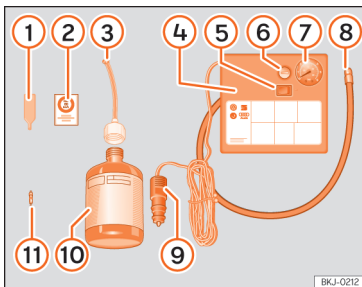

Fig. 70 Standard display: contents of the anti-puncture kit.
- Unscrew the tyre valve cap and insert. Use the »» Fig. 70 ① tool to remove the insert. Place it on a clean surface.
- Shake the tyre sealant bottle vigorously »» Fig. 70 ⑩.
- Screw the inflator tube »» Fig. 70 ③ into the sealant bottle. The bottle's seal will break automatically.
- Remove the lid from the filling tube »» Fig. 70 ③ and screw the open end of the tube into the tyre valve.
- Place the insert back into the tyre valve using the tool »» Fig. 70 ①.
- Screw the compressor tyre inflator tube »» Fig. 70 ⑧ into the tyre valve.
- Check that the air bleed screw is closed »» Fig. 70 ⑥.
- Insert the connector »» Fig. 70 ⑨ into the vehicle's 12-volt socket »» page 177.
- Turn the air compressor on with the ON/OFF switch »» Fig. 70 ⑤.
- Attach the sticker »» Fig. 70 ② to the instrument cluster, within the driver's visual field.